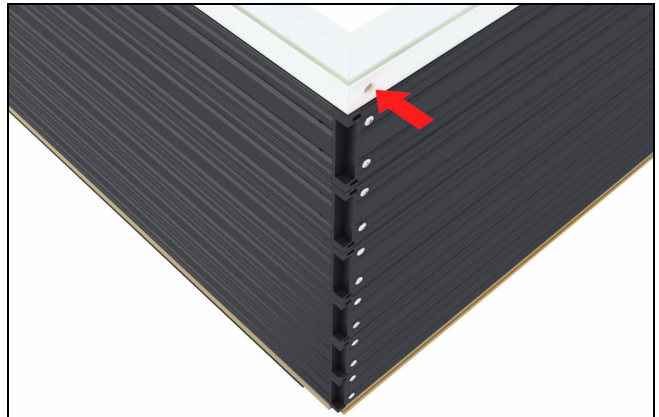

Figure 18
4. Do not install screw into frame cladding miter at this time. See figure 18.